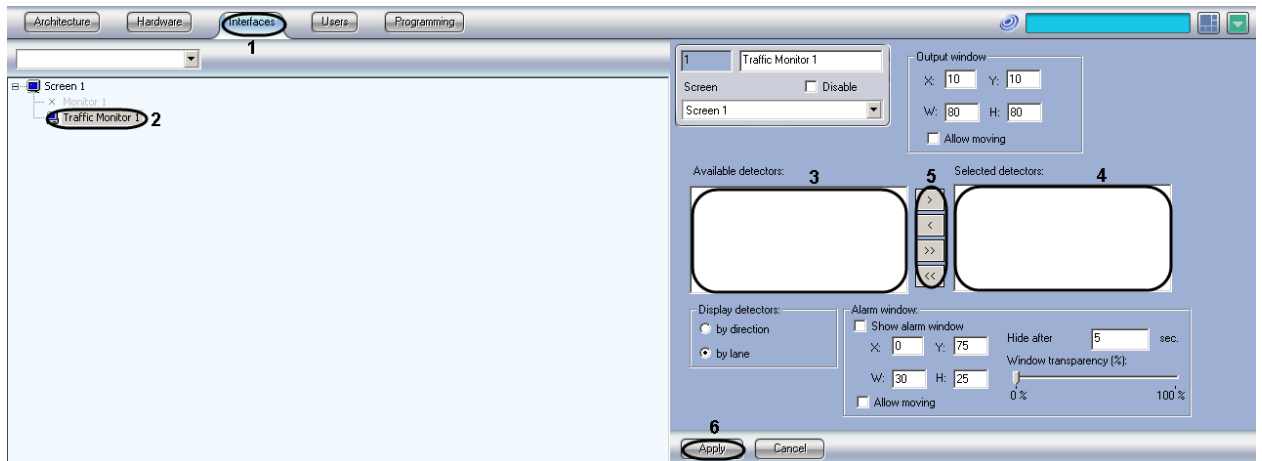

Fig. 7.7-2 Selecting the detectors
1. Open the Interfaces tab in the System Settings window (see Fig. 7.7-2, 1).
2. Select the Traffic Monitor object in the object tree (see Fig. 7.7-2, 2).
3. Select an item in the Available detectors list (see Fig. 7.7-2, 3).
4. Click the  button to move the selected item to the Selected detectors list (see Fig. 7.7-2, 4-5).
5. Click Apply to save the changes (see Fig. 7.7-2, 5).